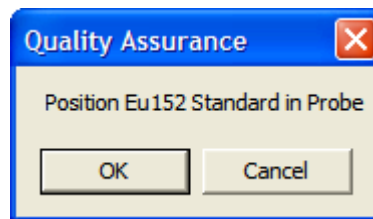

Figure 5-7
9. If you are continuing with Eu152, the screen appears as shown in Figure 5-7. Place the Eu152 source in the selected detector in the same position as Cs137 and click the button.